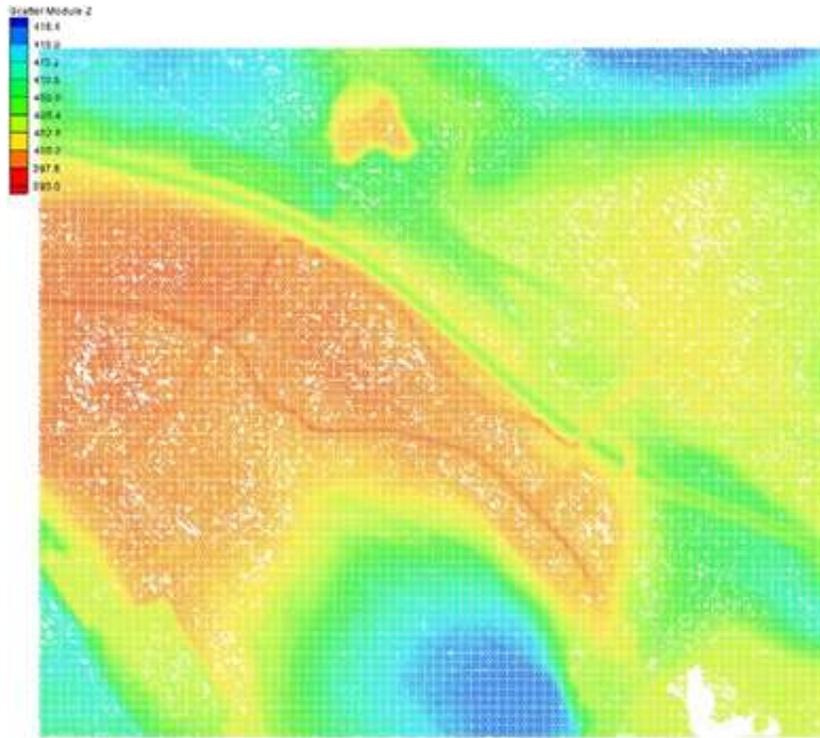

Figure 17 Scatter set after filtering by angles
3. Change the *Filter angles* to “2” degrees and click **OK**. It might take a little while for the all data points to be found and deleted. In this case around 50,000 points can be deleted. This represents about 9% of the total. (Note: SMS re-triangulates the remaining points, so any editing of the TIN users may have performed on the original will be lost.) The screen should now look like Figure 17. Notice the blank spaces where the data has been deleted.